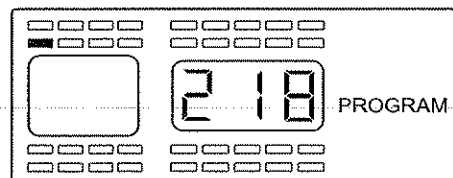

Figure 2-6a
8. If you have the correct number displayed, press the **SET** button for 3 seconds until the number flashes twice and you hear a beep twice to signify that the sensor ID number was successfully input to the monitor (see **Figure 2-6a**).